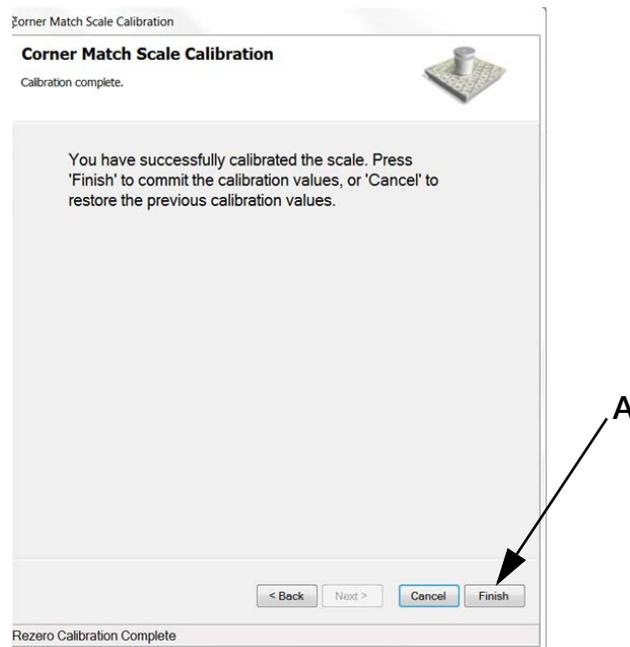

Figure 5-18. Finish Calibration
15. Press **Finish** to complete the calibration (Figure 5-18 A).